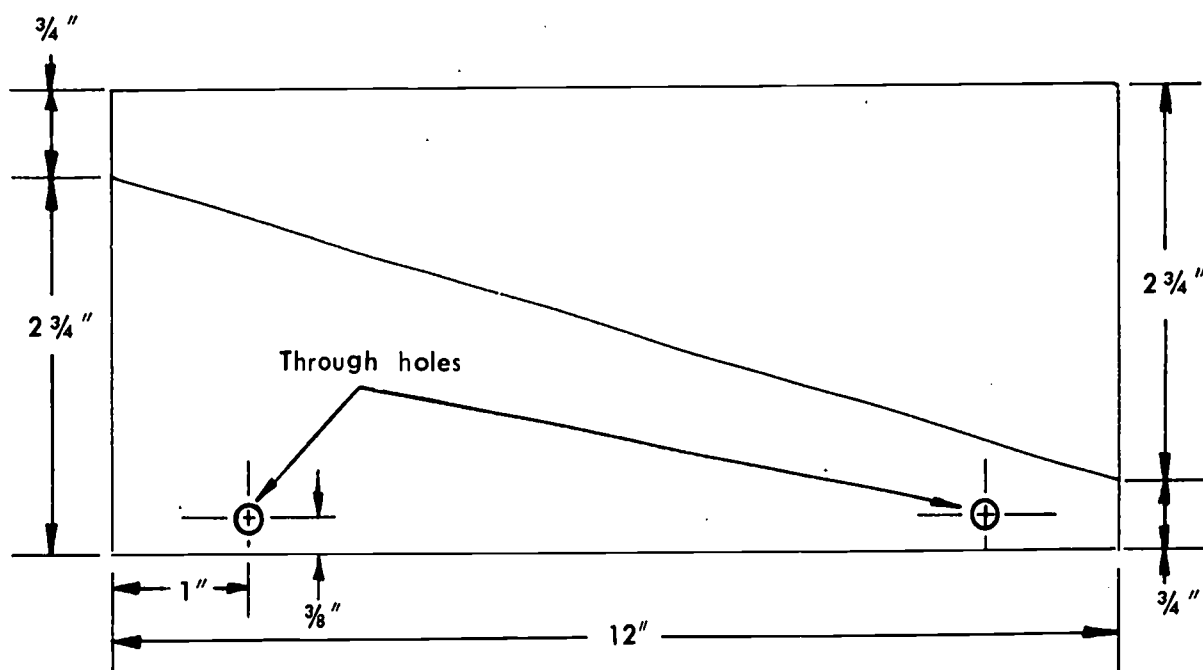
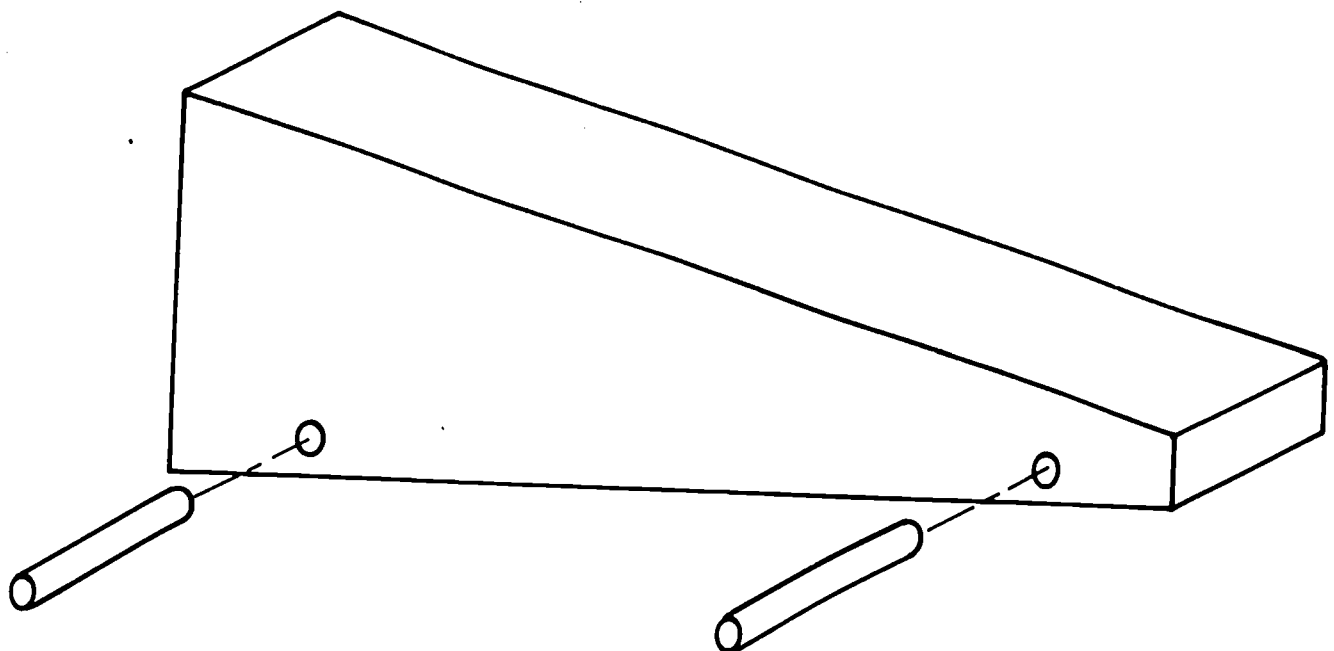
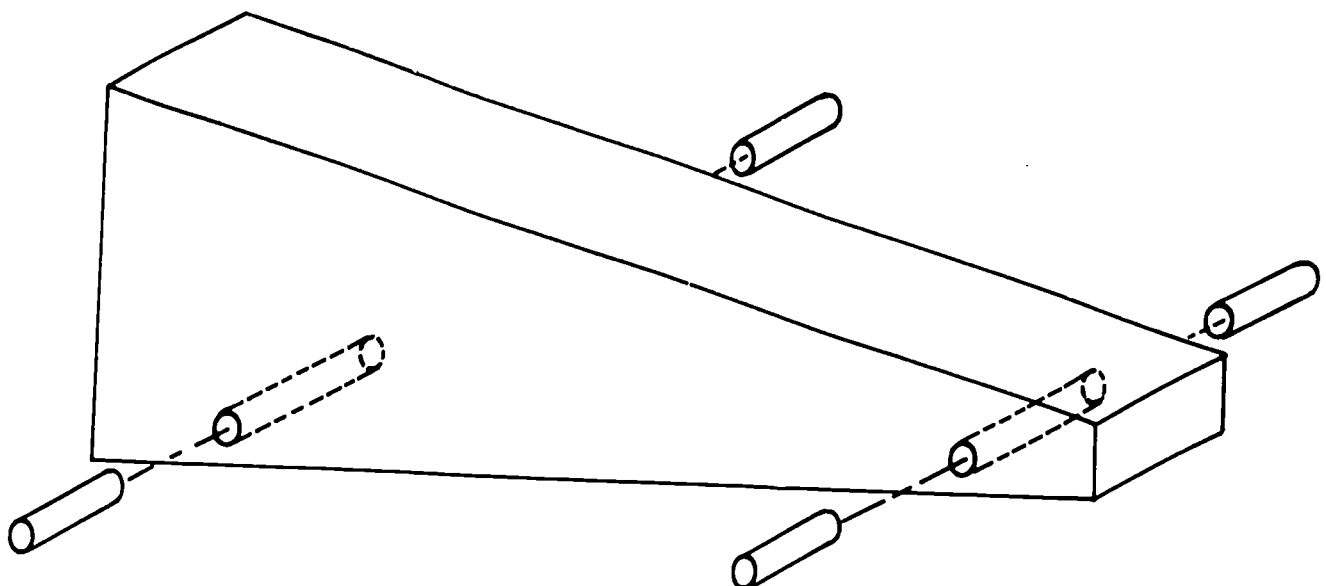

Fig. 17-1. Pattern for Cutting Test Vehicle Bodies
Fig. 17-2. Inserting Soda Straw Bearings
Fig. 17-3. Inserting Nylon Bearings
- 3 pcs. cut from 2" x 4" x 12" pine (knot-free). (See Fig. 17-1. Each block makes two bodies.)
- 4 pcs. .130 I.D. x $\frac{5}{32}$ " O.D. x $\frac{1}{2}$ " long nylon (See Fig. 17-2.)
- 2 pcs. $1\frac{5}{8}$ " long waxed paper soda straw (See Fig. 17-3.)
Figure 17-1 is a pattern for a vehicle body. Holes are drilled for axle assemblies. Vehicle A has no bearings. Vehicle B has soda straw bearings, shown in Fig. 17-2. Vehicle C has nylon bearings, shown in Fig. 17-3.